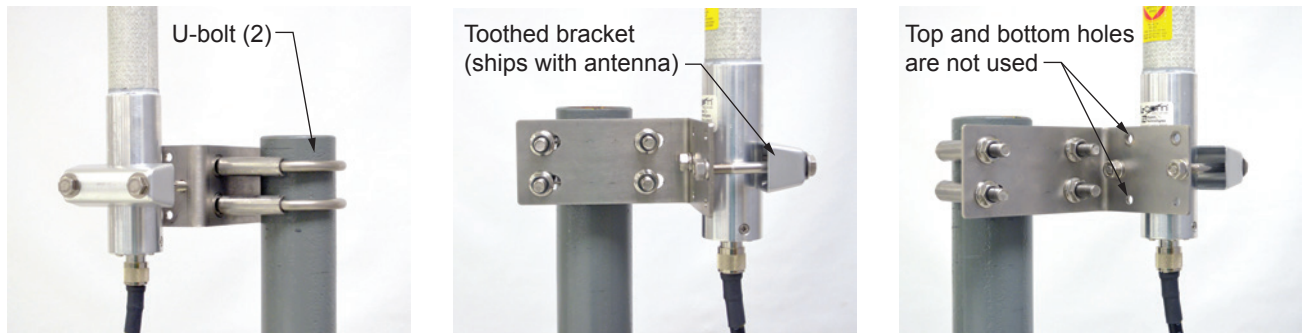

Figure 2.8—Optional 2-in. pipe mount bracket
- **Direct-mount to an orifice or cone type DP meter.** The integral multi-variable sensor may be connected to the pressure taps with stabilizers or a heavy wall nipple with adapter flanges, and a 5-valve manifold (Figure 2.8, page 35). A bottom-port MVT is recommended for gas measurement; a side-mount MVT is recommended for liquid or steam measurement. An optional four-port MVT is available for installations requiring additional conduit entries (not suitable for ATEX-approved devices).
To install the antenna, reference Figure 2.8 while following the instructions below:
2. Position the L-shaped bracket against the pipe so that the pipe is on the outside of the “L” and secure it to the pipe with the two U-bolts and four U-bolt nuts (Figure 2.8, left). The U-bolts will pass through the longest of the two bracket panels.
5. Place a flat washer over each of the 5/16-in. bolts and insert the bolts through the holes in the toothed bracket and through the center holes in the L-bracket panel (Figure 2.8, center and right).
8. Holding the antenna in place, tighten the two 5/16-in. nuts on the inside of the L-bracket to secure the antenna (Figure 2.8, right).